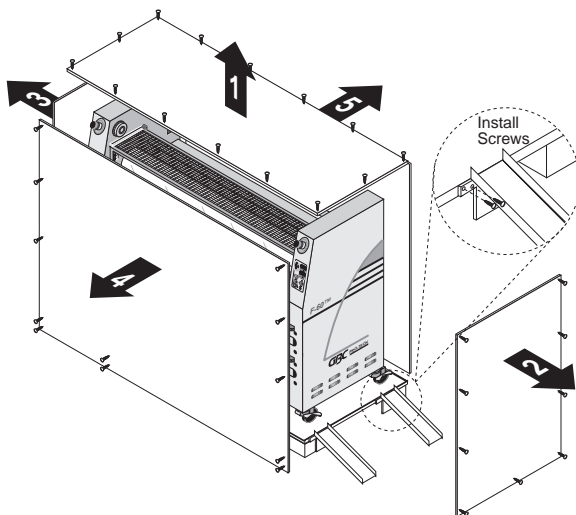

Figure 2-2: Removing the Crate
1. Remove the top of the crate and sides 2 and 3 as shown in Figure 2-2.
A second person must support the side labeled (5) in Figure 2-2. It can fall and damage the laminator.
10. The ramps included with the laminator can be secured to the edge of the crate bottom using the screws left over from the crate disassembly (see Figure 2-2).
Roll the machine off by securing included ramps to the edge of the crate bottom using the screws left over from the crate disassembly (See Figure 2-2).